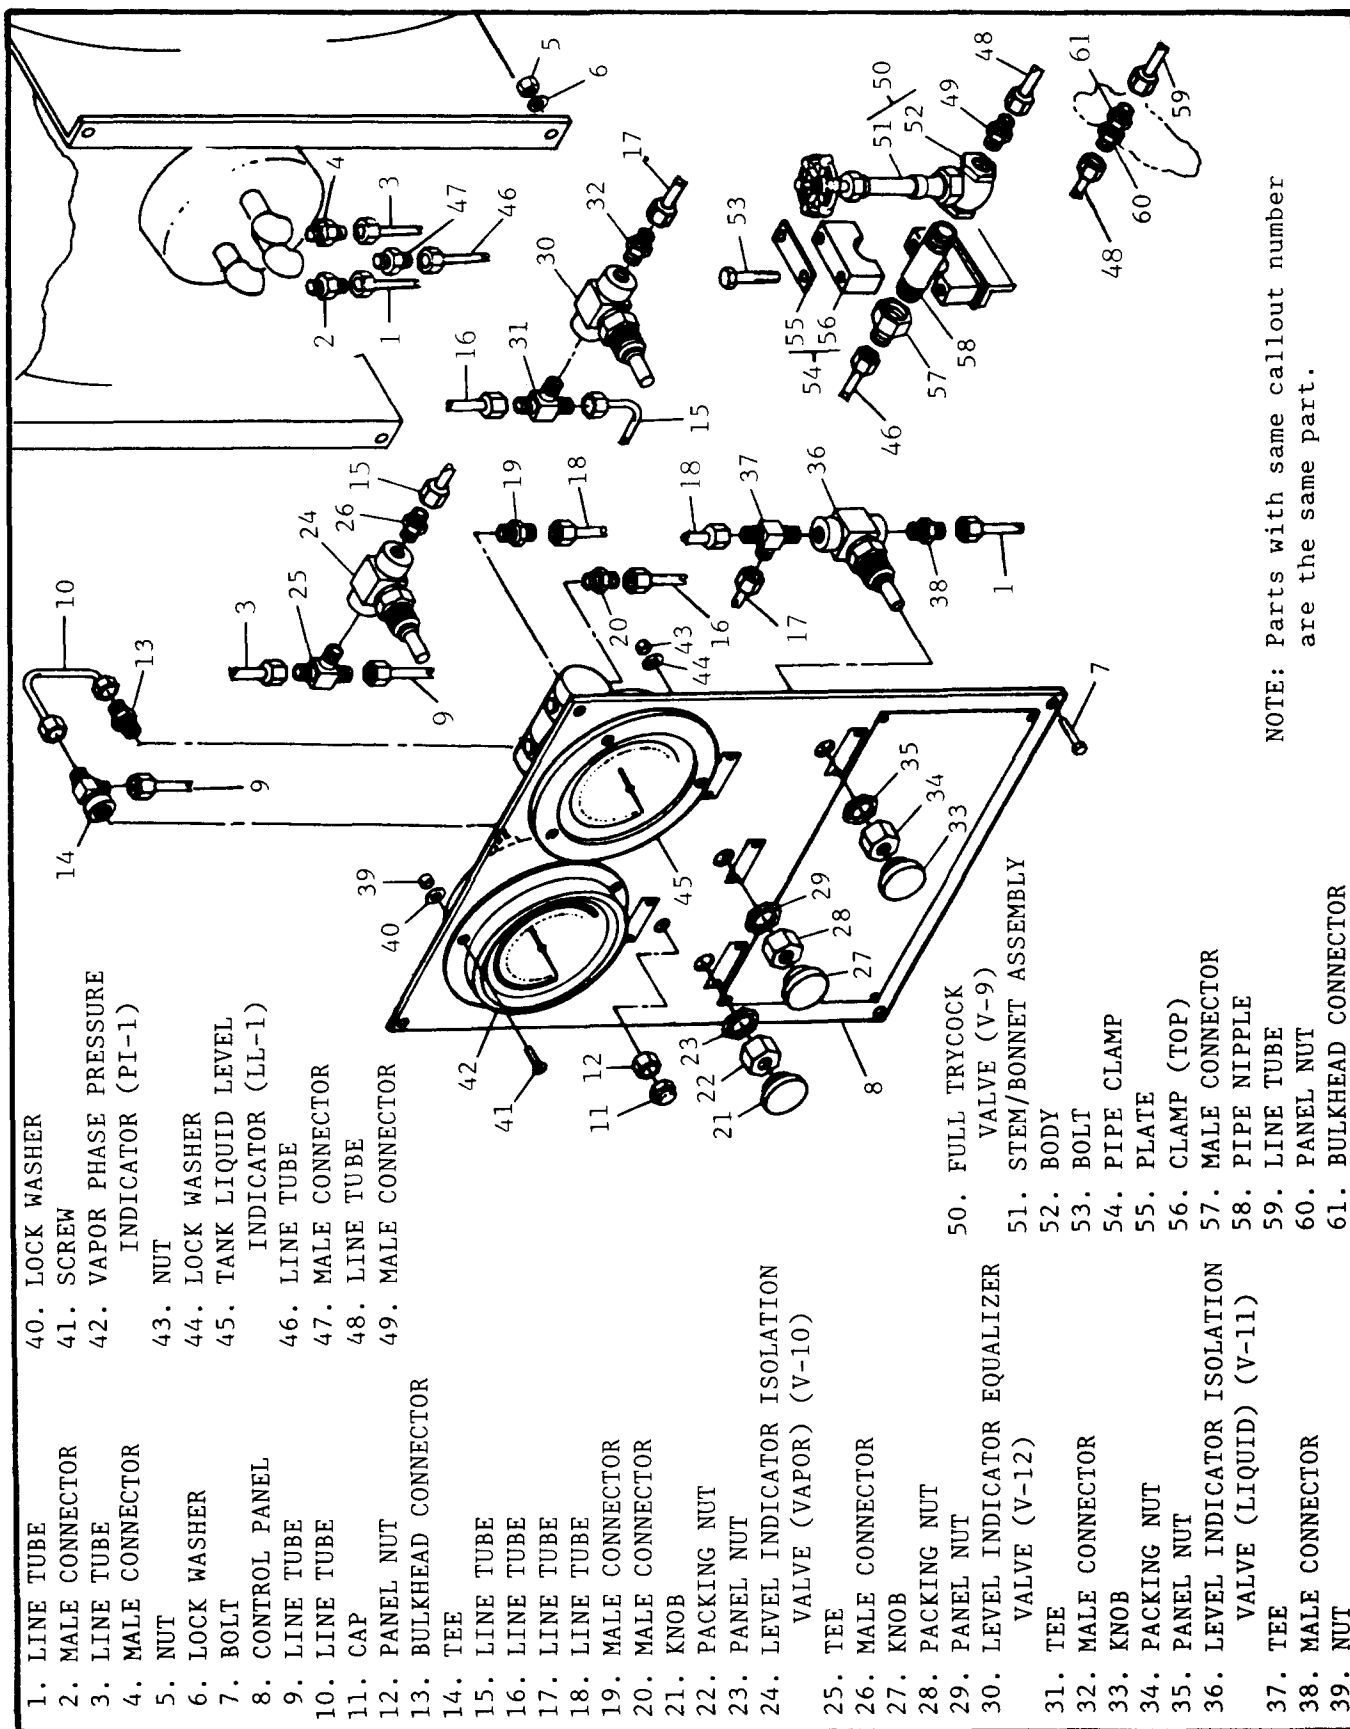

Figure 3-7. Control Panel and Components.
3-2.2.7 Control Panel (CP) and Full Try-cock Valve (V-9) Removal and Disassembly (Figure 3-7). The CP consists of the vapor phase pressure indicator (PI-1), Tank liquid level indicator (LL-1), level indicator isolation valve (vapor) (V-10), level indicator isolation valve (liquid) (V-11), level indicator equalizer valve (V-12), a panel of the Tank flow schematic and operating instructions, component tags, indicator and valve tubing, and associated hardware. V-9 has been included with the CP. Removal of the CP and V-9 is as follows: